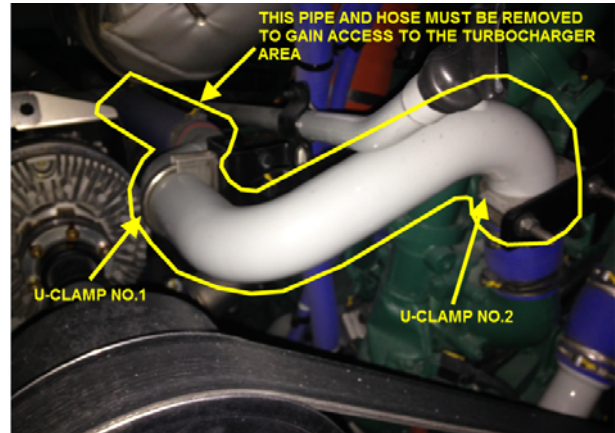

FIGURE 3
- In order to reach the turbocharger area, the radiator coolant return pipe shown on FIGURE 3 along with the furthest flexible hose must be removed.